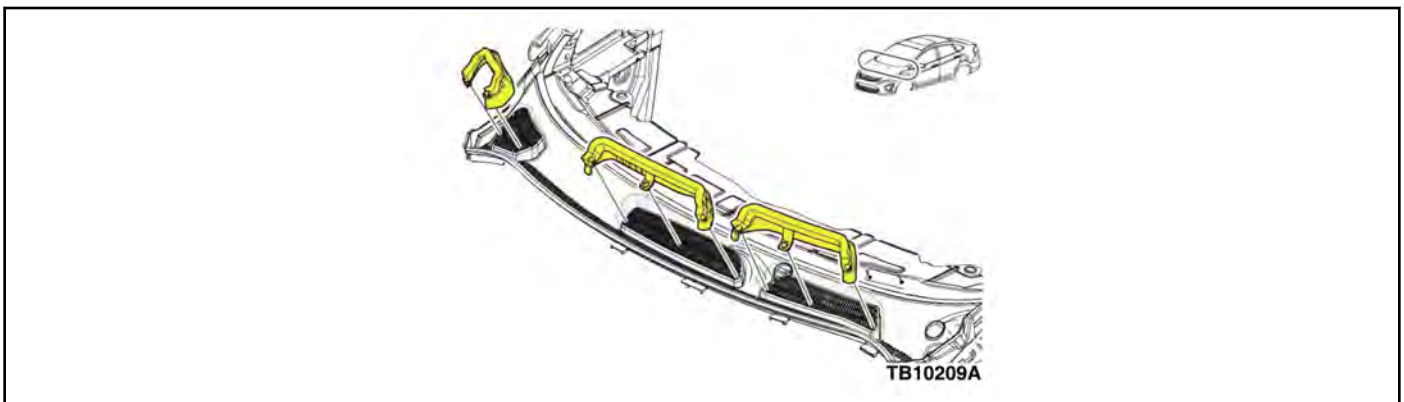

Figure 1 - Article 16-0018
3. Open the hood and inspect for the presence of foam deflectors on the air inlet openings of the cowl opening grille. Are deflectors present? (Figure 1).